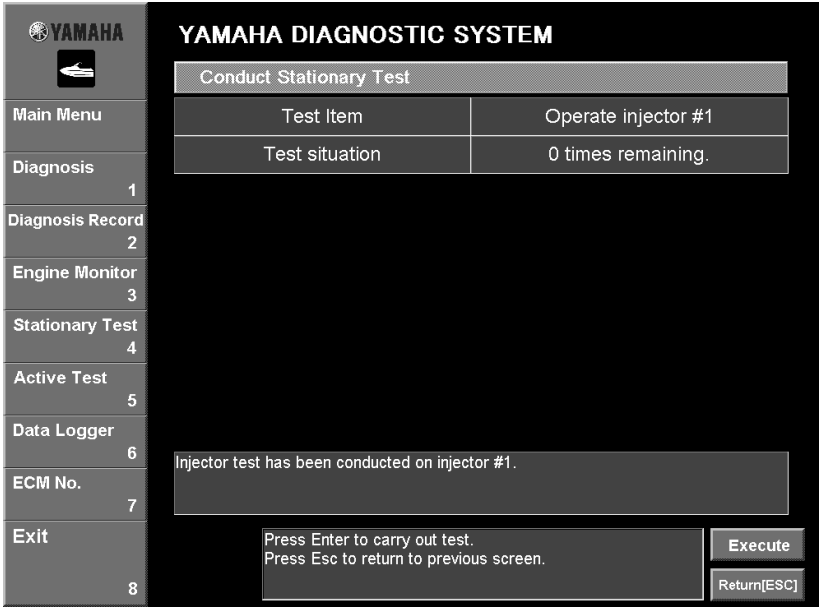

Fig. 51
5. To perform the test again on the same cylinder, click the **Execute** button or press the Enter key on your keyboard. To perform the test on a different cylinder, click the **Return [ESC]** button or press the Esc key on your keyboard to return to the window where a different test can be selected. (Fig. 51)